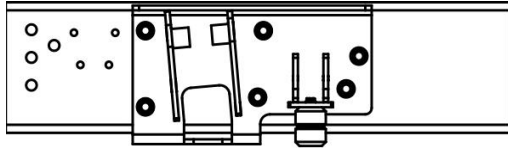

Figure 17. Passenger Side (RH) Upper Strut Mount Installation.
- Loosely attach the Right Hand Upper Strut Mount and Crossmember End Channel to the frame using (6) 5/8"-11 x 2" Hex Flange Bolts and (6) 5/8"-11 Locking Flange Nuts. Refer to Figure 17. Note orientation of the End Channel as shown above.